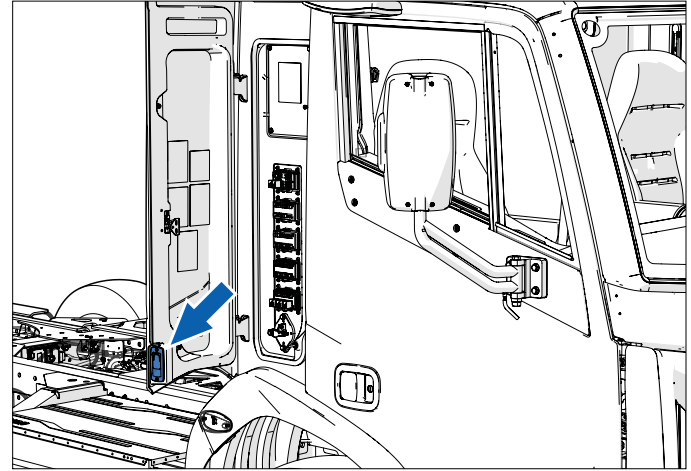

Figure 11 - Access panel handle
4. Locate the handle at the bottom of the accessory compartment access panel (**Figure 11**).